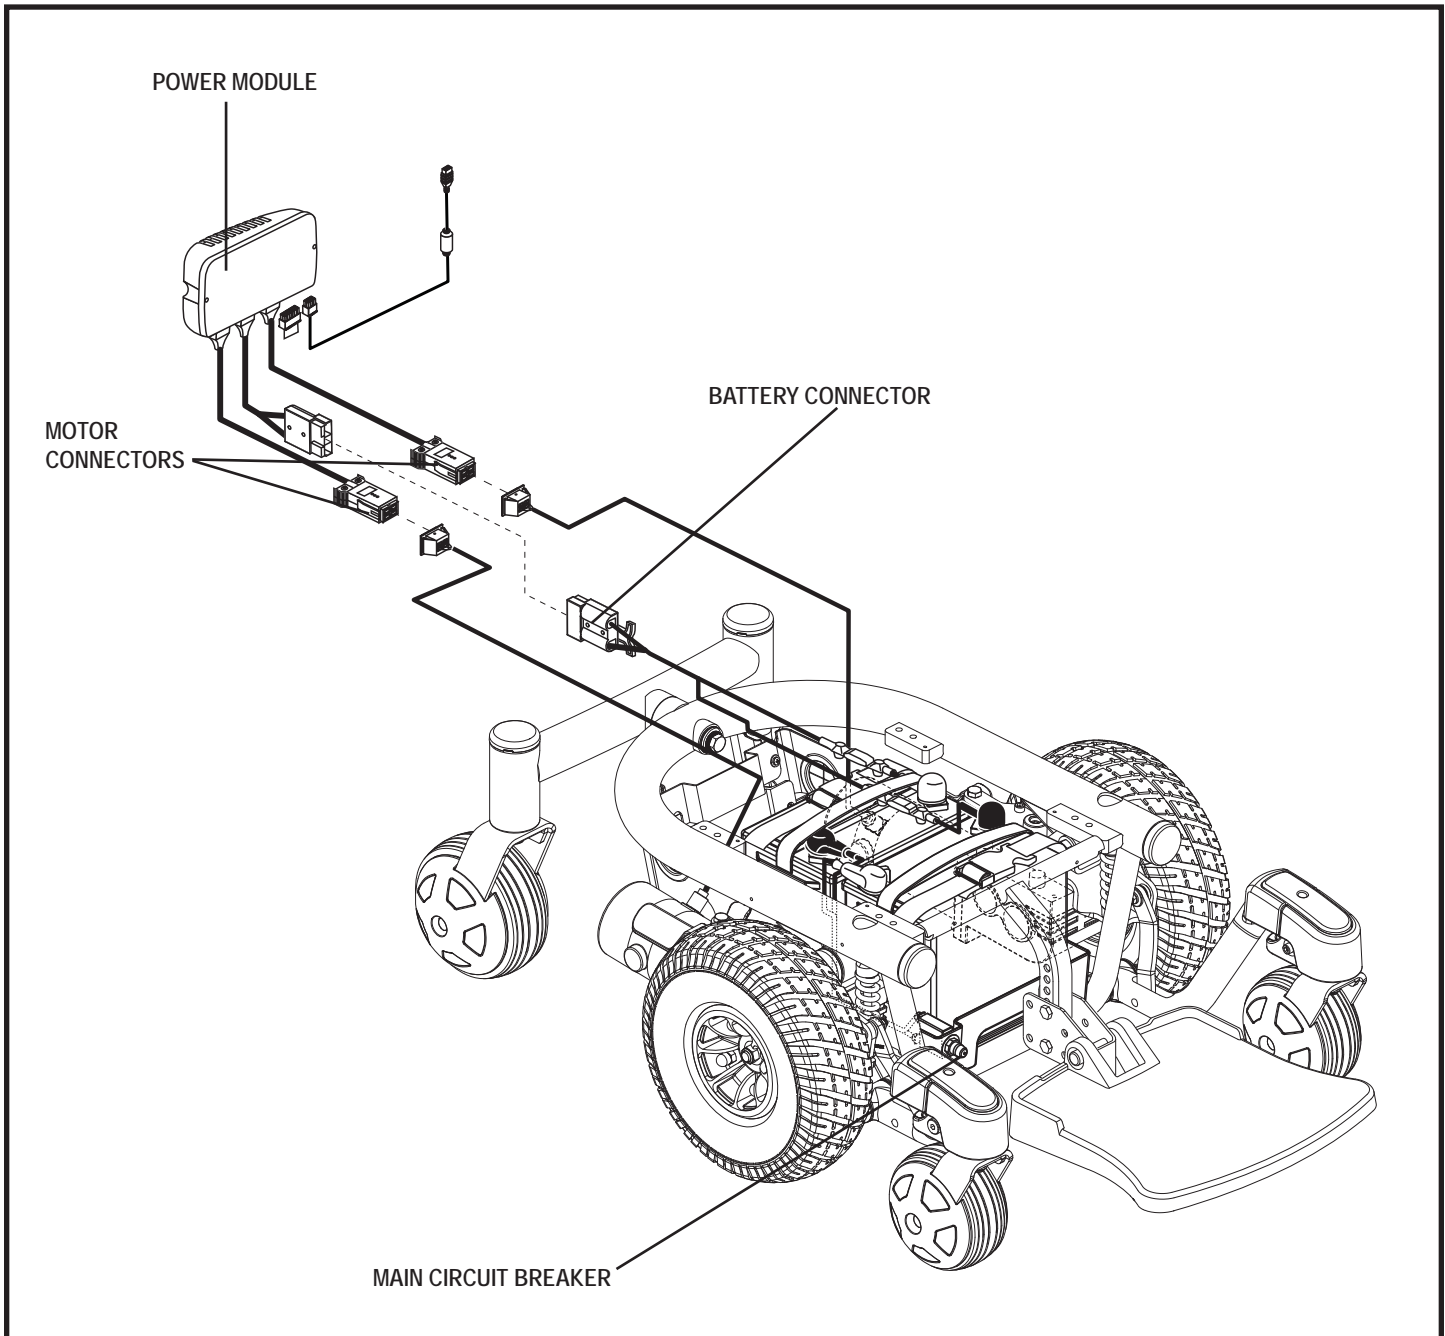

Figure 3. Quantum 610 Series Electrical Components
The electrical components are located inside the power base. The main circuit breaker is located on the front of the battery tray. The controller connector(s) are located inside the power base. **See figure 3.**
6. Plug the controller connector into the power base. **See figure 3.**
3. Disconnect the controller connector(s) from the power base. **See figure 3.**